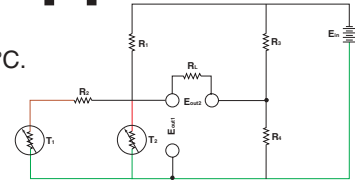

Figure 1
***See Figure 1, example 1 on typical linear component application page.
3. Using the Linear network as two legs of a Wheatstone bridge add the two additional legs, R_3 and R_4 so that $E_{out2} = 0$ when $T = 30^\circ\text{C}$. (See Figure 1.) R_3 and R_4 are calculated from five known conditions.